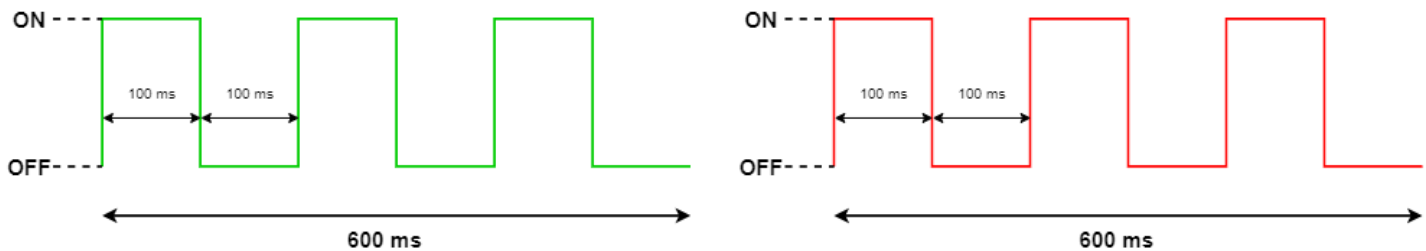

Figure 3-2: The GREEN POST Pass (left) and RED POST Failure (right) LED Patterns
- a. If the POST passes, **GREEN** is toggled ON and OFF 3 times: every 100 ms for 0.6 s, as shown in Figure 3-2. In this case, the LED pattern proceeds to step 4.
- b. If the POST fails, **RED** is toggled ON and OFF 3 times: every 100 ms for 0.6 s, as shown in Figure 3-2. In this case, the device restarts and the LED pattern begins again at step 1 after approximately 4 s.